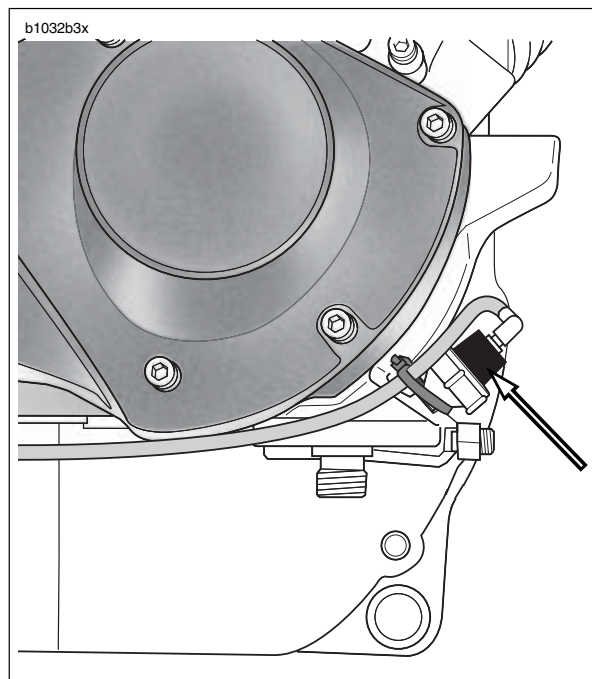

Figure 3-112. Oil Pressure Indicator Switch
See Figure 3-112. The oil pump is non regulatory and delivers its entire volume of oil under pressure to the oil filter mount. When an engine is cold, the engine oil will be more viscous (i.e., thicker).
2. See Figure 3-112. Unplug connector (2) from oil pressure indicator lamp switch located on top of the oil filter mount (3). Remove oil pressure switch by using OIL PRESSURE SENDING UNIT WRENCH, unscrew and remove oil pressure switch from crankcase.